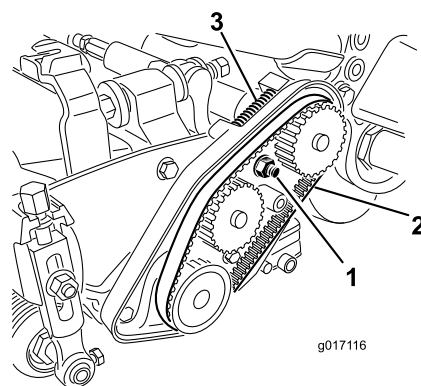

Figure 48
- A. Loosen the bearing housing mounting nut (Figure 48).
- C. Clean any debris from inside the belt compartment and from around the compression spring (Figure 48).